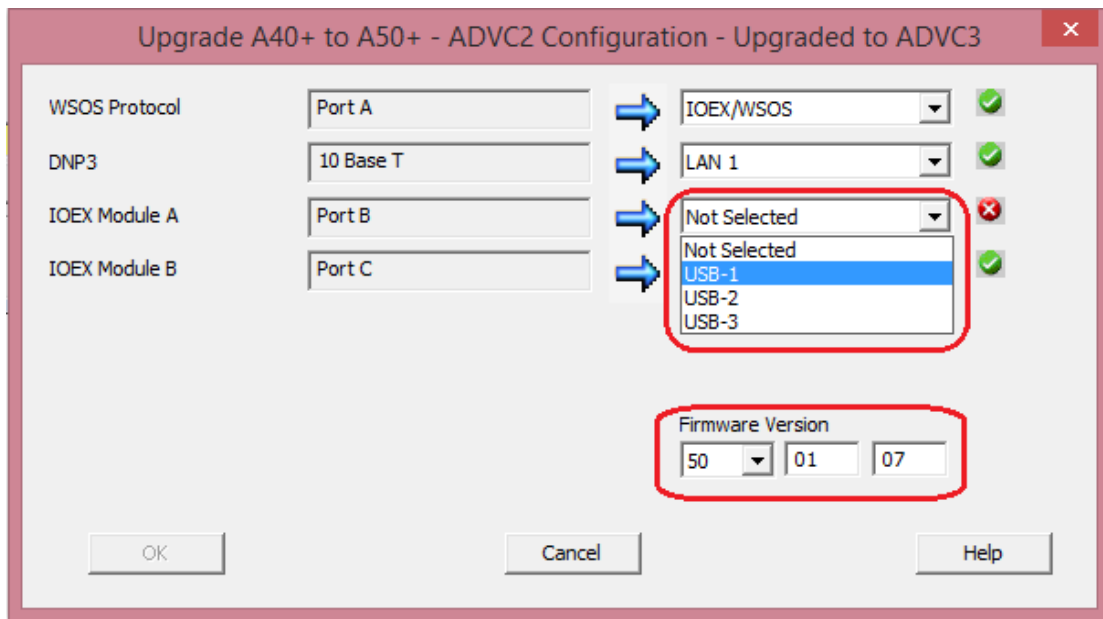

Figure 8: New port selection
- The user can then choose an appropriate port for the protocol, by selecting one of the available ports from the drop-down menu, as shown in Figure 8. It is also possible to change the port selections for the other protocols, which were automatically assigned during the configuration upgrade.